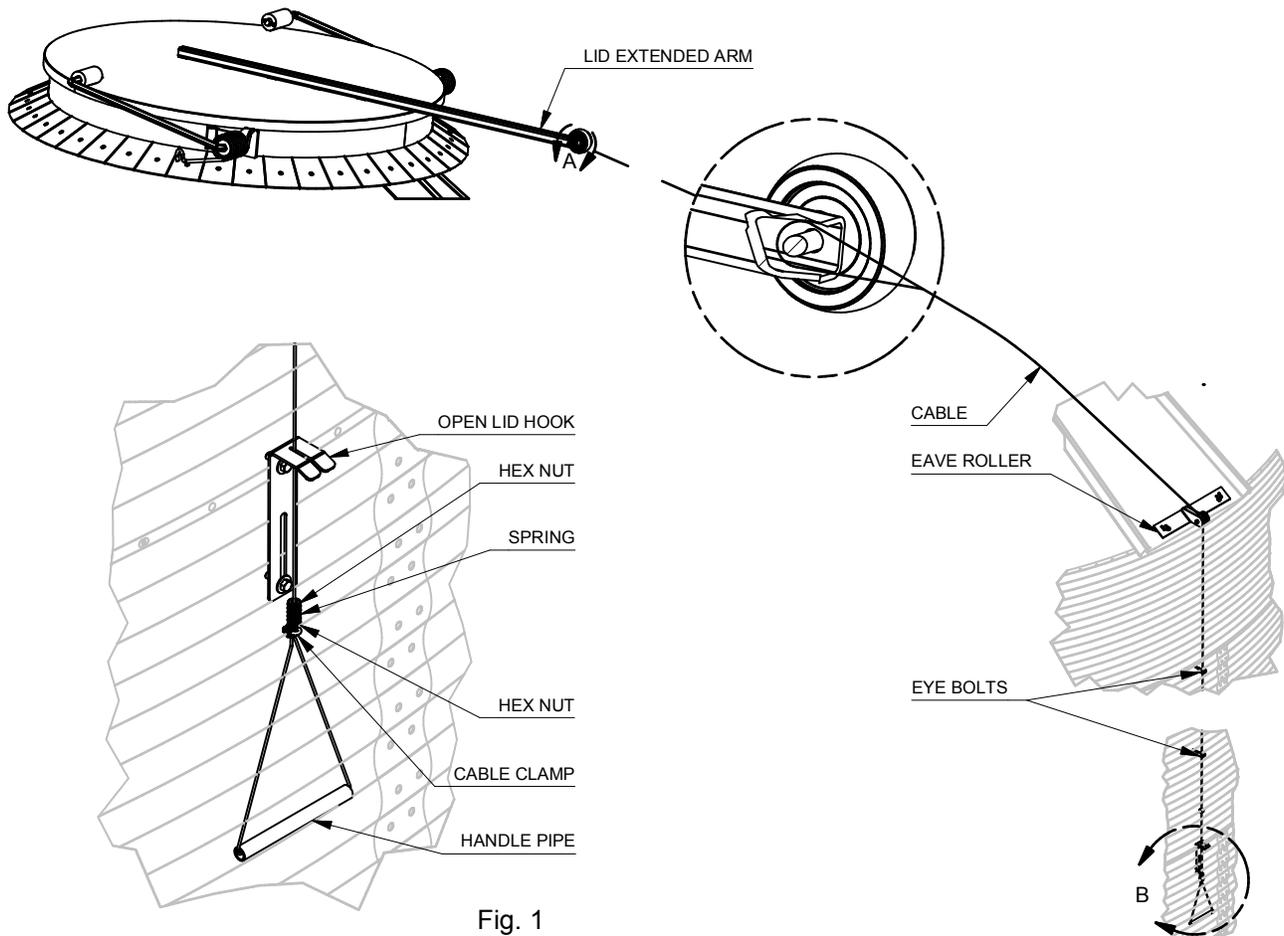

Fig. 1
6. Route cable through the handle pipe and use cable clamp to clamp the cable to itself. *Note:* Ensure hex nuts and spring are **above** clamp as shown in Fig. 1, below. Adjust location of clamp on the cable so that when the bin lid is open the spring is compressed against the underside of the open lid hook.